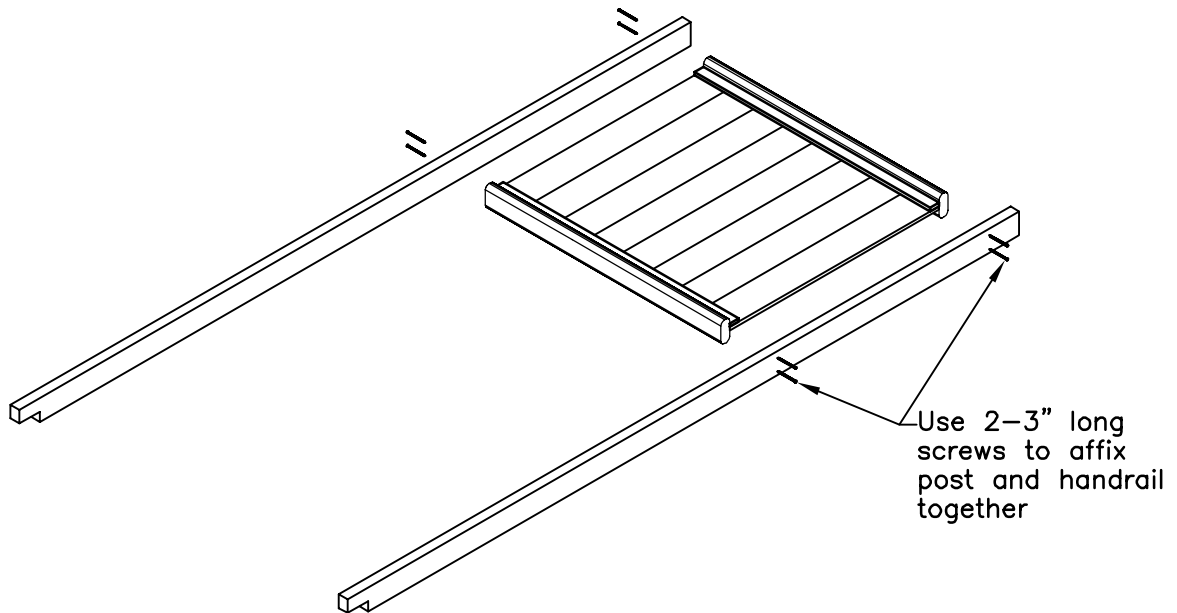

FIGURE S11
- Now by using the rails, posts and T&G panels, you will produce 3 right wall sections, 3 left wall sections, 1 right doorway section and 1 left doorway section. Use the posts and rails to sandwich the T&G panels into place. Use 3" screws to affix the posts. Refer to Figure S11.